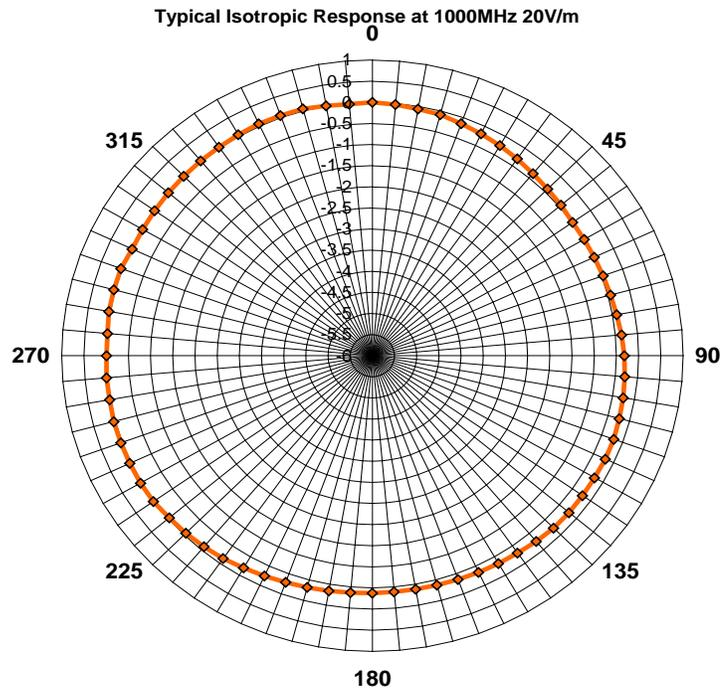

Figure 2: Isotropic Response
**Isotropic Deviation** is the variation of the probe's response from ideal as it is rotated in the field. While this deviation in measurement is usually verified at one frequency and in one rotational plane, some advanced probe calibrations offer a much more expanded calibration with isotropic response measurements taken at many frequencies. Figure 2 shows a typical isotropic response of a probe as it is rotated around the critical angle. If calibration factors were applied to each axis, the resultant curve would approach an ideal concentric circle, or completely isotropic. The term isotropic gives the impression that measurements are taken as the probe is rotated in every direction. This is not so do to time factors and cost of calibration. This undesirable error component can be minimized by attention to physical design. The minimal isotropic deviation of spherical probes discussed later is a case in point. Example:  $\pm 0.5$ dB 0.5 MHz – 2 GHz.